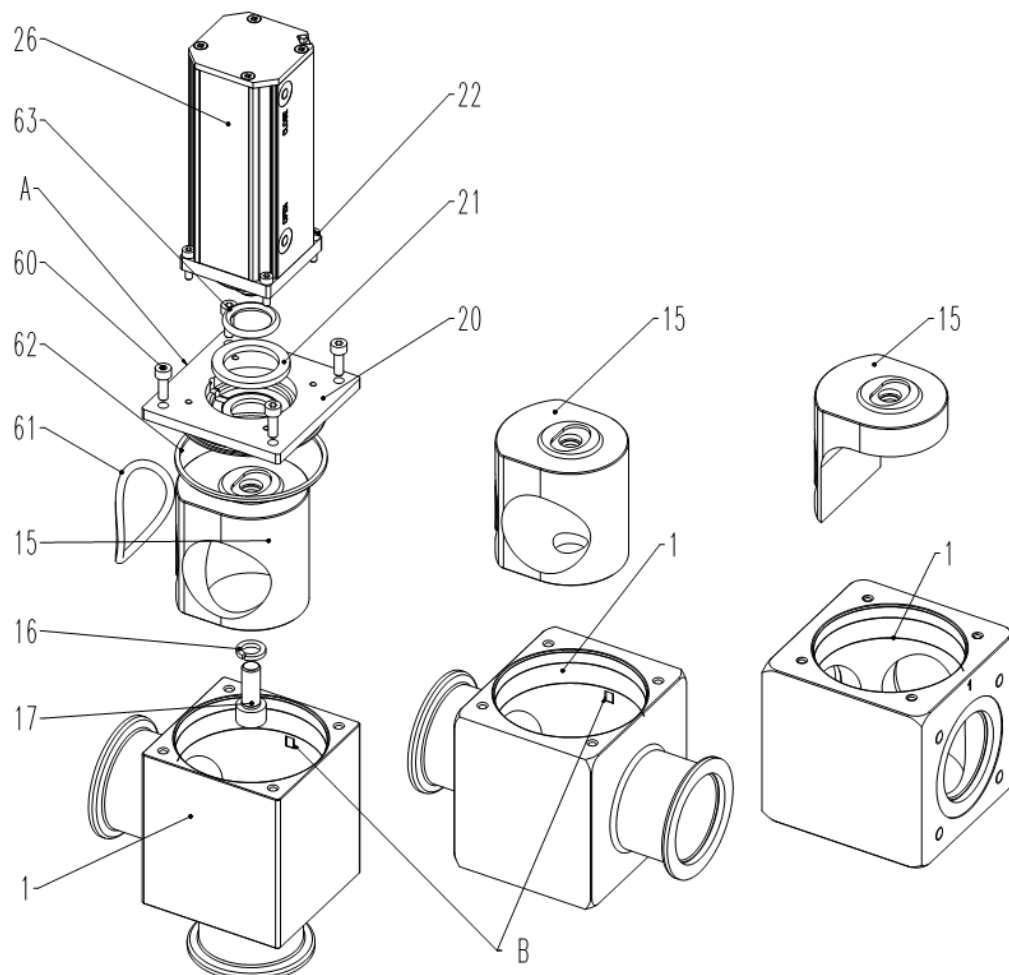

Figure 6-4
The leak detection port; see «Figure 6-4» on page 19 should be located on the opposite side from the compressed air inlets.
16. Insert the gate fixation screw (17) and washer(16). Tighten the gate fixation screw (17) with a tightening torque of 10 Nm.
17. Put new gate seal (61) on the groove and press it into the groove at 4 opposite spots. Press remaining sections uniformly into groove.
18. Put new bonnet seal (62) into bonnet flange (20).
19. Make sure that the gate (15) is located in an intermediate position (not locked in an end-position).
20. Carefully insert the valve insert into the body (1).
-  See «Figure 6-4» on page 19 for correct location of venting groove inside valve body (1) with compressed air connection ports from the actuator.
21. Fasten screws (60) uniformly and in crosswise order.